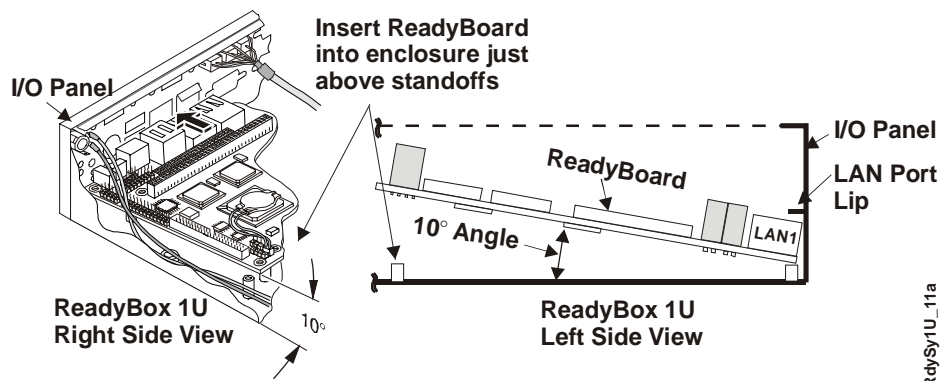

Figure 2-7. ReadyBoard Positioned Under LAN Ports
7. Position the ReadyBoard near the eight standoffs on the enclosure base at about a 10° angle to the mounting surface. See Figures 2-7 and 2-8.
8. Insert the ReadyBoard and its LAN connectors just under the lip of the LAN port on the enclosure wall, behind the I/O panel. See Figure 2-7.